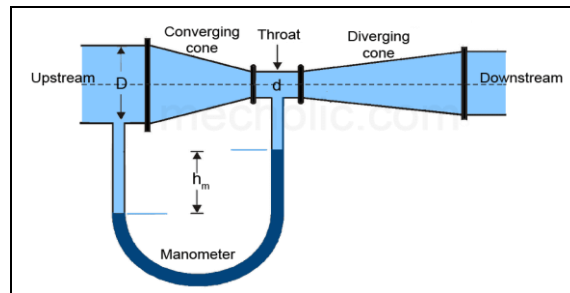

Fig:1 Venturimeter
1.1 Determine the coefficient of discharge for fluid flow at different operating conditions i.e., 1/4th, 1/2th, 3/4th, and full opening within a pipeline as shown in Fig. 1.